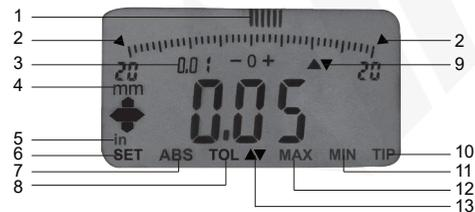

fig.1
1. Install and remove battery(CR2032), the negative side of battery should face out(fig.1).